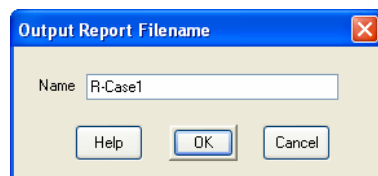

Fig. 11
17. On the “Transient Stability” toolbar, click “Run Transient Stability” button, see Fig. 11.